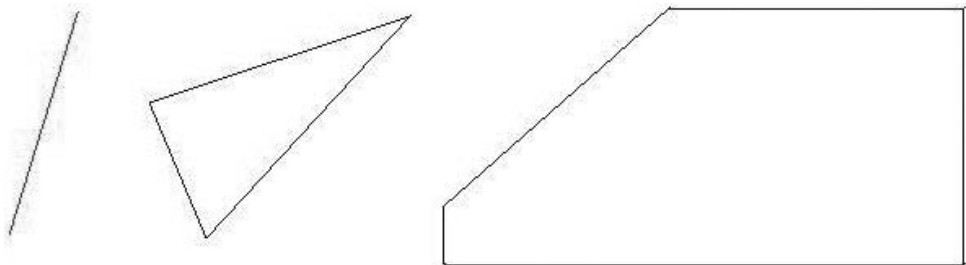

Figure 3-19 Sketch Lines
**Step 4:** Use  to draw Figure 3-19. Do not concern yourself with the size or dimensions of the sketch.